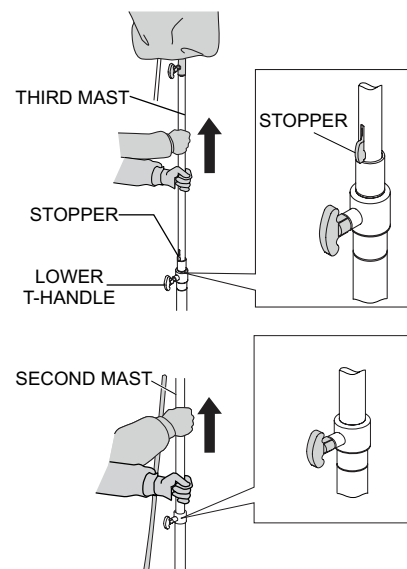

Figure 13. Raising The Mast
6. Tighten lower T-handle (Figure 13) securely and raise third mast to desired height.